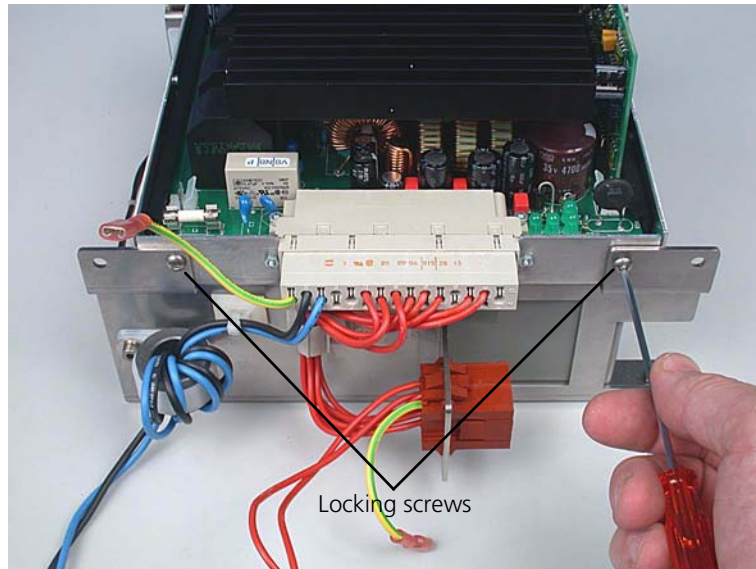

Figure 11-18. Removing the mounting plate screws
5. Remove the two hexagonal-drive (Allen) screws securing the power supply board mounting plate to the main chassis. (Figure 11-18.)